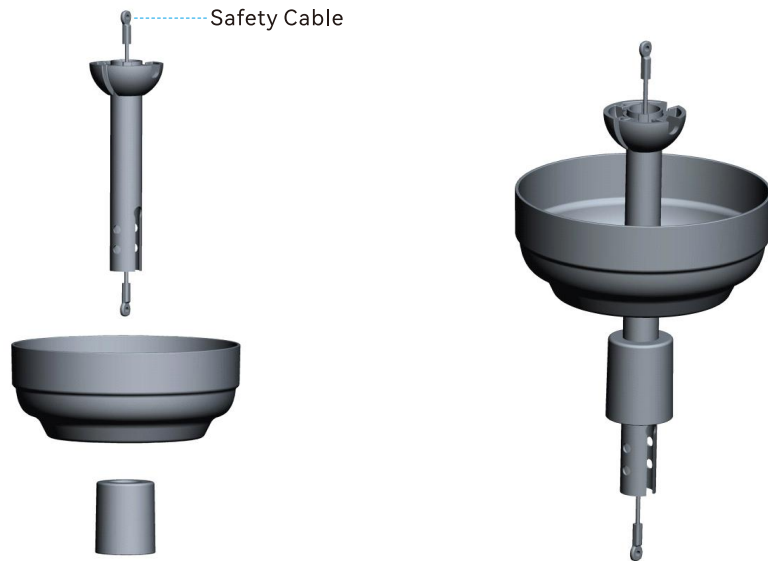

Fig 3.1
3.1 Assemble downrod as pictured in Fig 3.1. Insert the downrod through the canopy and wiring cover.